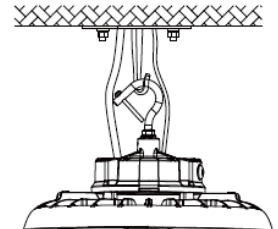

Fig. 2
2. Hang the fixture on the ceiling hook or chain. (Fig. 2)